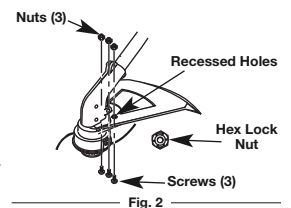

Fig. 2
2. Place a hex lock nut into one of the three recessed holes on the top of the cutting attachment shield (Fig. 2).
3. Install a screw into the hole from the bottom of the cutting attachment shield and screw it into the nut installed in step 2 (Fig. 2). Do not tighten.